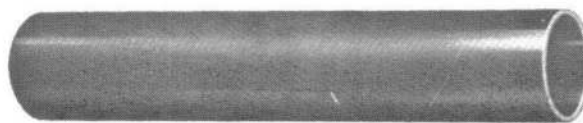

Fig. 3 Abrasion resistant sleeve Part No. AE251(900961)
- (3) Sleeve Part No. AE251 (formerly Part No. 900961) (fig. 3). This sleeve is an extruded, translucent, seamless FEP 100 Teflon tube and is used for abrasion protection in high temperature applications of -53.8°C to $+204.4^{\circ}\text{C}$ (-65°F to $+400^{\circ}\text{F}$). The sleeve is unaffected by fuels, lubricating oils, coolants or solvents used in aircraft service. When supplied in bulk, each length is identified by a tape at each end which shows: Part No., - size, manufacturers code. Additional tapes are attached to lengths in excess of 3.048 m (10 ft).